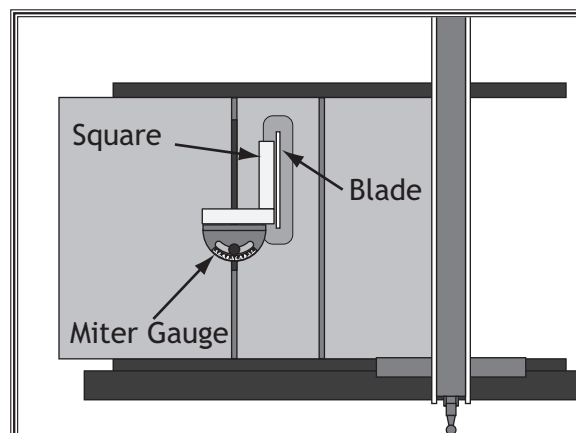

Figure 108. Checking the 90° miter gauge stop.
3. Place the square evenly against the face of the miter gauge and the blade, as shown in **Figure 108**.